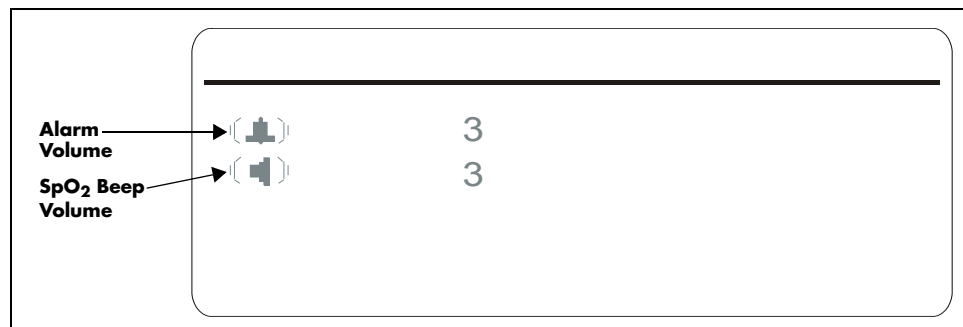

FIGURE 3-4 Menu
1. Press the **MENU** key (8) to display the menu. The menu is shown in figure 3-4. The alarm volume is initially highlighted when the menu is displayed. The highlighting indicates this item can be changed.
3. Press the **SELECT** key (11) to move the highlighting to SpO₂ beep volume.
5. Press the **MENU** key (8) again to exit the menu and return to the Trend screen.